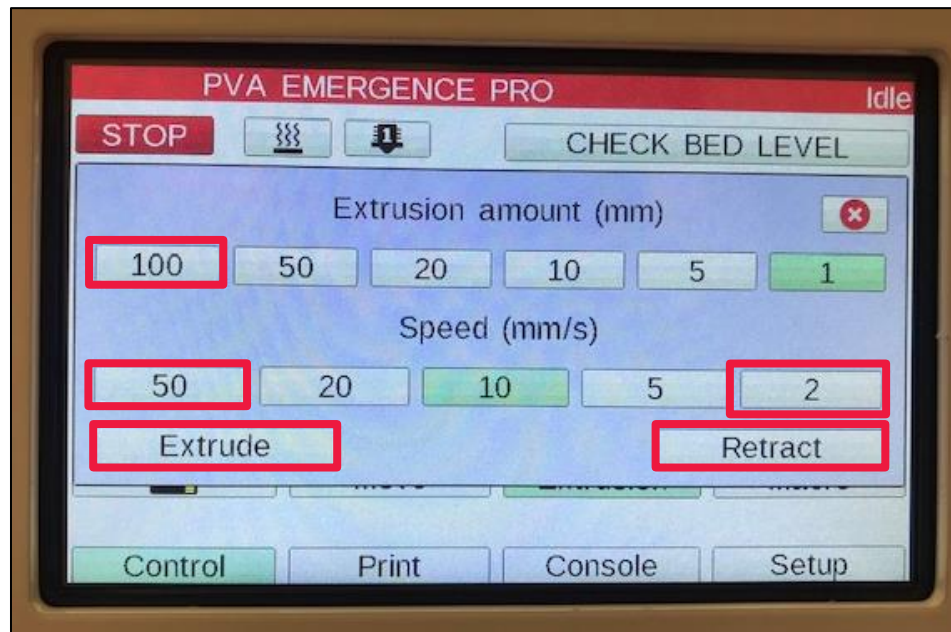

Figure 34: Extrusion
7. Via the **Extrusion** button on the printer display, quickly extrude 200 mm to prime the hot end (Figure 34).
10. Wipe nozzle with the putty knife from the printer tool kit and perform a 2 mm retract by pressing '1' twice (Figure 34).